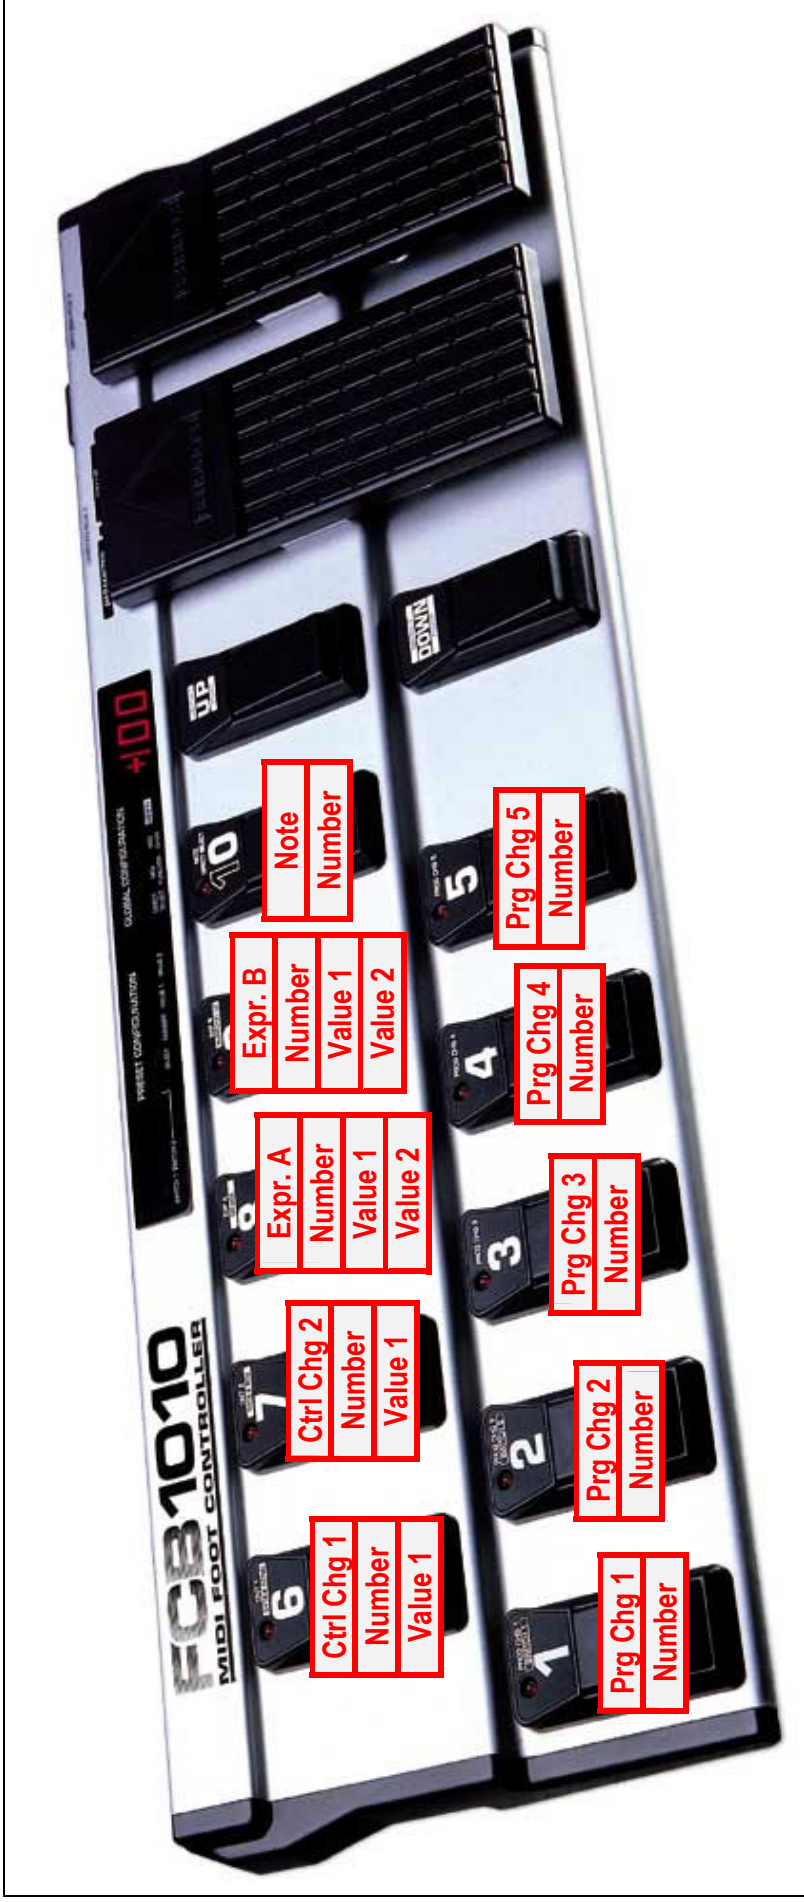

Fig. 2 : Preset programming
6. Fig. 2 shows the parameters that need to be set. Fill in the required values, and always confirm with ENTER/UP.